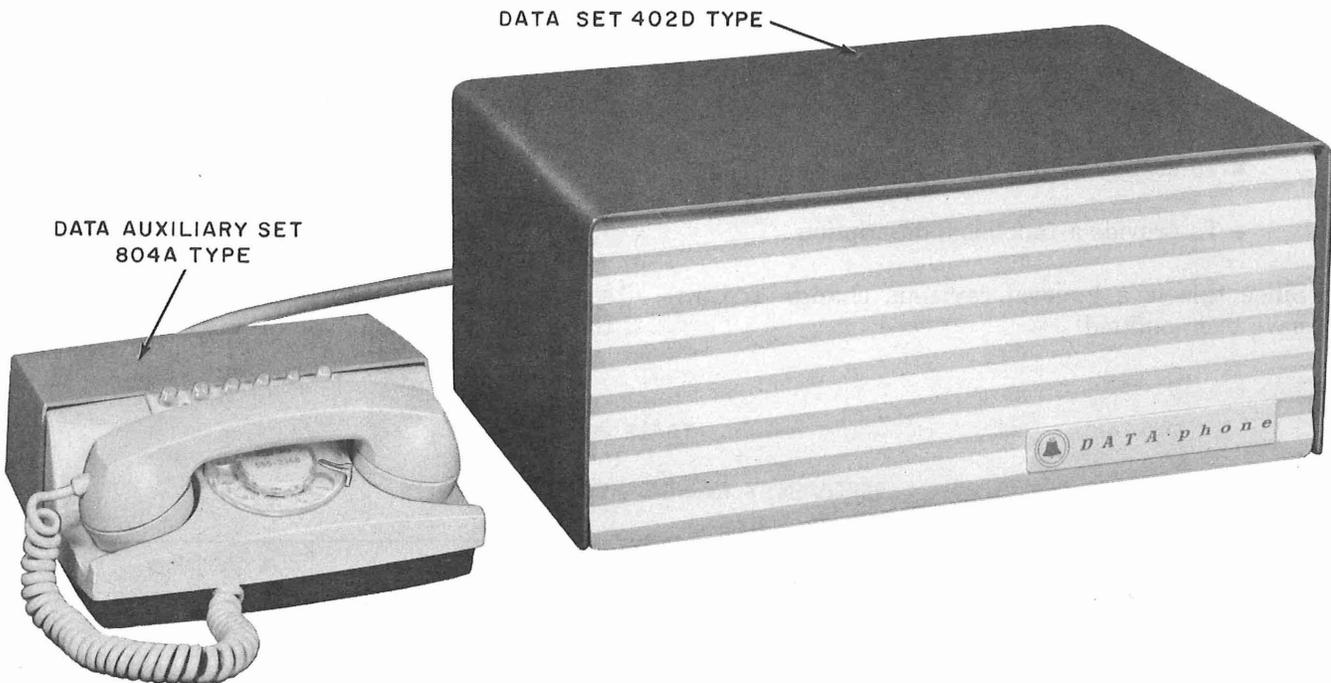

Fig. 1—Data Set 402D-Type With Data Auxiliary Set 804A—Front View
2.01 DS 402D-type is housed in a gray aluminum housing with a white and light gray striped aluminum front panel (Fig. 1). The overall dimensions of the data set are 17-1/2 inches wide, 7-3/4 inches high, and 11-5/8 inches deep. The data set weighs approximately 45 pounds and operates on 105 to 125 volts 60 \pm 1 Hz ac.